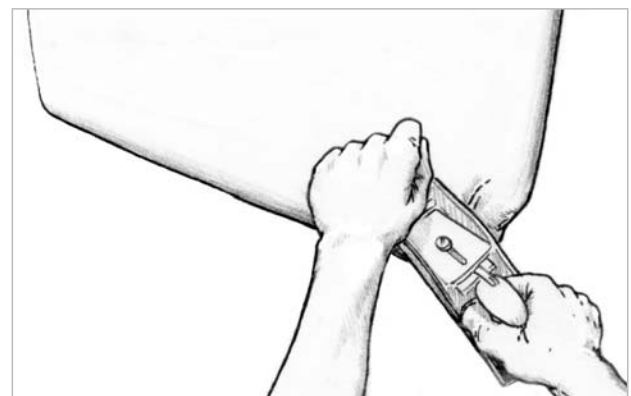

Figure 8-3 Plane or file the remainder of the bulge flush after you have forged as much as is practical.
4. Plane or file the remainder of the bulge flush after you have forged as much as is practical (*Figure 8-3*). For small areas, a body file works well. When greater amounts of lead must be removed, a woodworking plane is the best tool for the job. Apply a liberal coat of petroleum jelly to the lead surface. Adjust the plane's blade for a medium cut, and be certain the blade is sharp. Thoroughly clean the lead of any remaining petroleum jelly with solvent after the bulge has been faired. When the solvent has evaporated, scrub the surface vigorously with a wire brush to expose fresh lead.